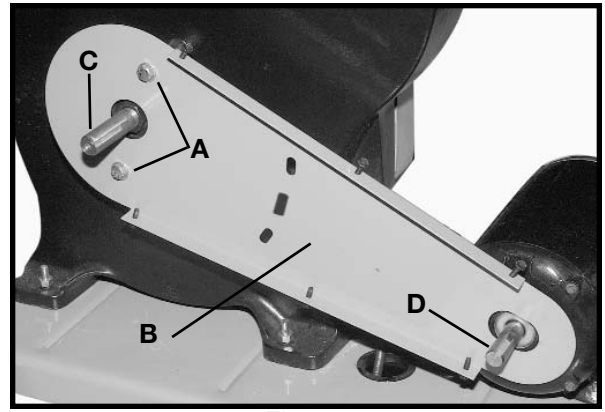

Fig. 10
2. Place the inside belt and pulley guard (B) Fig. 10 over the arbor shaft (C) and motor shaft (D), and fasten the guard (B) to the tool using the two 1/2" hex head cap screws and flat washers (A). **NOTE:** Partially tighten the screws at this point.